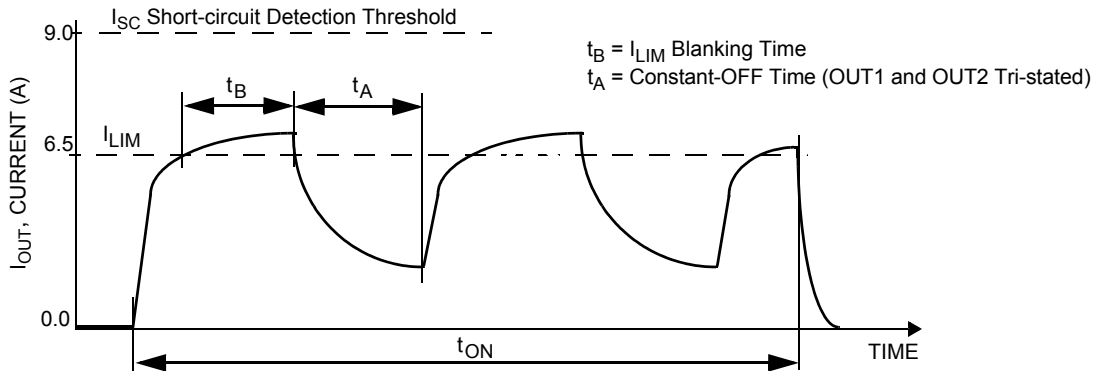
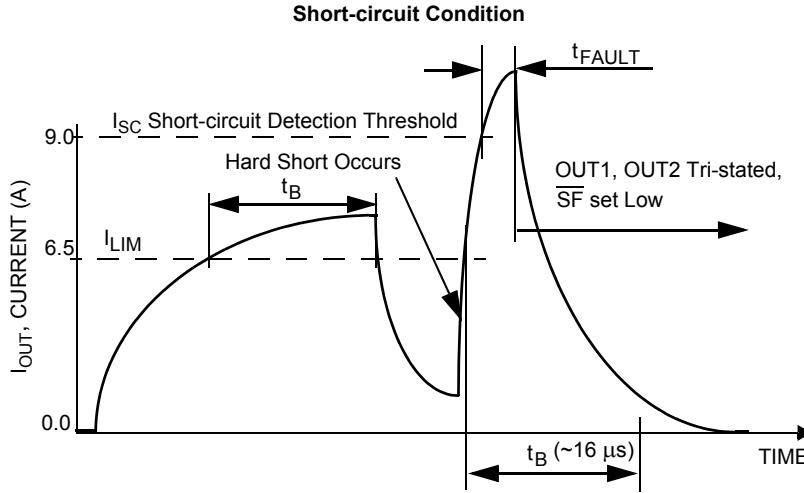
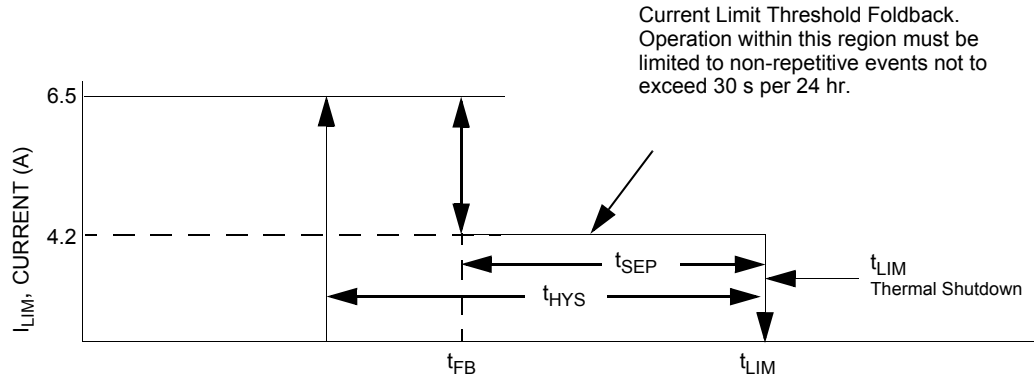

Figure 7. Current Limit Blanking Time and Constant-OFF Time
Figure 8. Short-circuit Detection Turn-OFF Time t_{FAULT}
Figure 9. Output Current Limiting Foldback Region
| Output Current Regulation Threshold $T_J < T_{FB}$ $T_J \geq T_{FB}$ (Fold back Region - see Figure 9 and Figure 11) ⁽¹³⁾ | I_{LIM} | 5.2 | 6.5 | 8.0 | A |
28. Load currents ramping up to the current regulation threshold become limited at the I_{LIM} value (see Figure 7). The short-circuit currents possess a di/dt that ramps up to the I_{SCH} or I_{SCL} threshold during the I_{LIM} blanking time, registering as a short-circuit event detection and causing the shutdown circuitry to force the output into an immediate tri-state latch-OFF (see Figure 8). Operation in Current Limit mode may cause junction temperatures to rise. Junction temperatures above $\sim 160^\circ\text{C}$ will cause the output current limit threshold to “fold back”, or decrease, until $\sim 175^\circ\text{C}$ is reached, after which the t_{LIM} thermal latch-OFF will occur. Permissible operation within this fold back region is limited to non-repetitive transient events of duration not to exceed 30 seconds (see Figure 9).